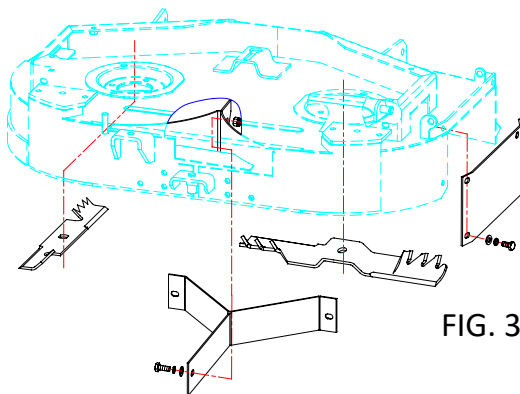

FIG. 3
b) 28" mulching assembly (2832010), 32" mulching assembly (3210135): See FIG 3